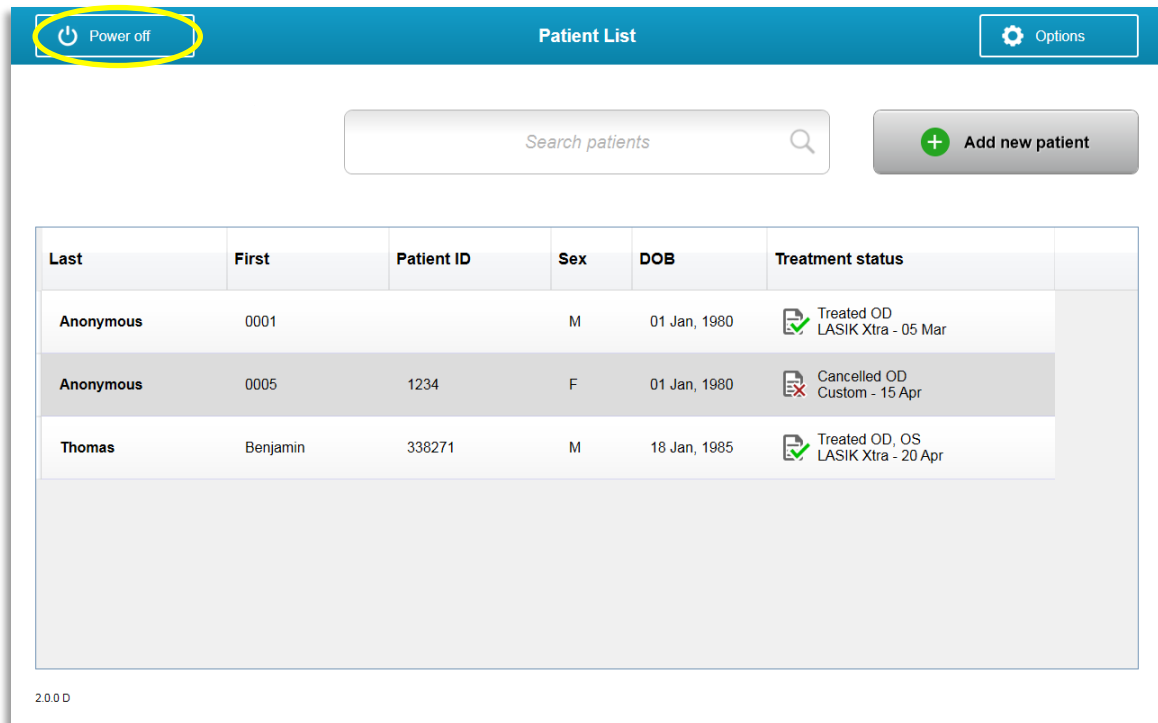

Figure 3-47. Select “Power Off”
- Select “Power Off” on the Patient List homescreen as shown in Figure 3-47.